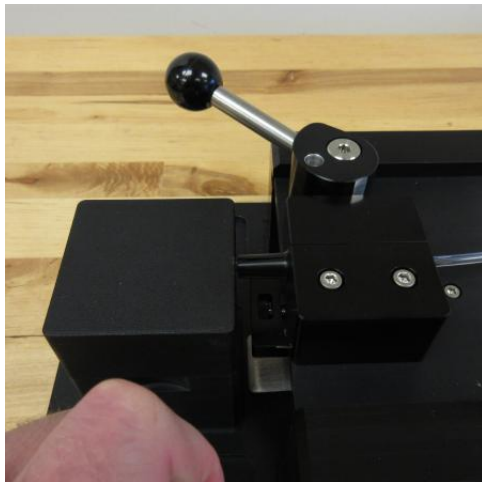

Figure 9
- Pull the thrust lever back until the fitting is inserted to desired position. (Figure 9)